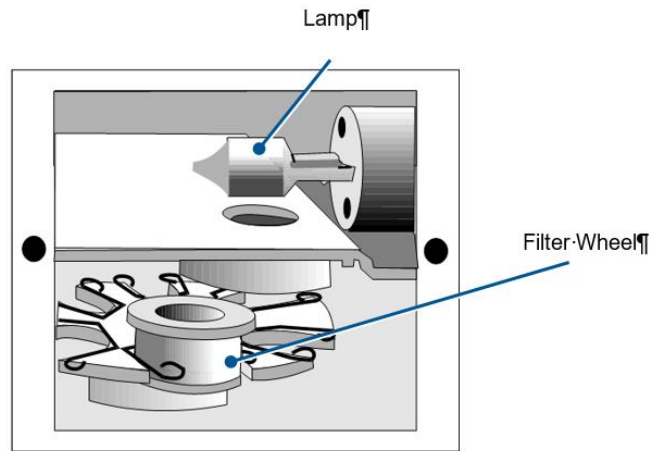

Figure 150: Optical Assembly
2. Remove the filter access panel to expose the optical assembly. The bulb is mounted in the upper portion of the optical assembly as shown in Figure 150.